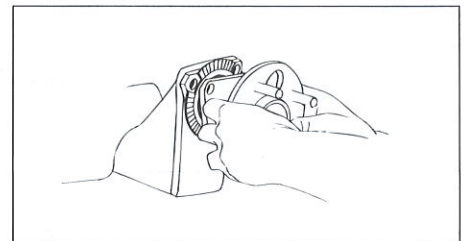

Figure 4
8. Remove the spindle or hub from the vehicle, clean all surfaces and install the shim with the top reference mark directly at 12:00 position and the serrations facing out (toward you) (Figure 4)